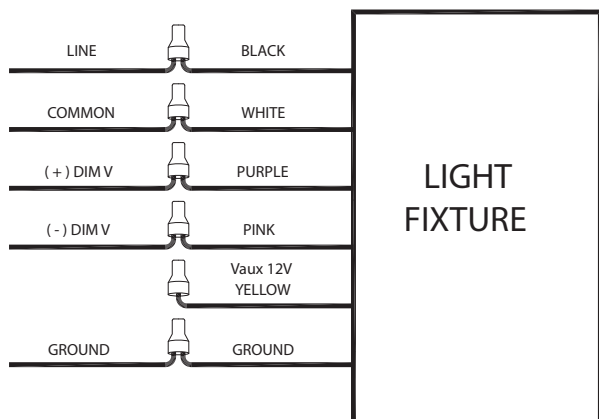

Fig. 12
5. Align **Surface Mount Adapter Plate** to the **Housing Cover**. Using (4) **Screws** (*provided*) secure **Surface Mount Adapter Plate** and **Housing Cover** to the **Surface Mounting Plate**.
6. Follow appropriate wiring instructions per code (Fig. 12).
9. Follow appropriate wiring instructions per NEC and local code (Fig. 12).
2. Connect wires per NEC and local code as shown in wiring diagram (Fig. 12). Push all wires back into the **Junction Box**. Be careful not to pinch wires. Mount the **Cross Bar** on Junction Box.
Universal voltage driver permits operation at 120V through 277V, 50 or 60 Hz. For 0-10V dimming, follow the wiring directions as shown in Fig. 12.